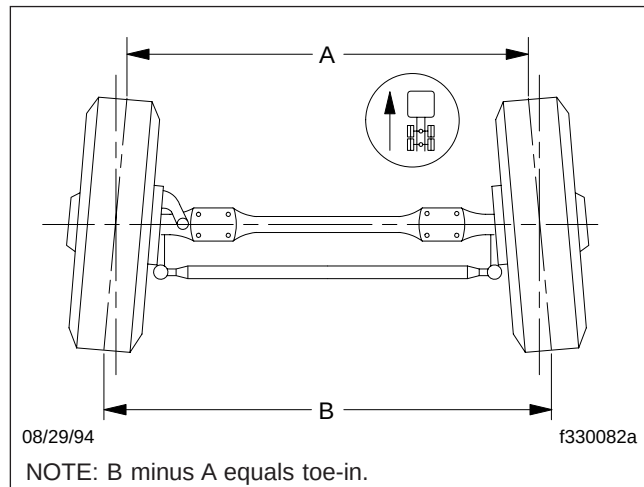

Fig. 3, Wheel Toe-In (overhead view)
6. Place a trammel bar at the rear of the front tires; locate the trammel pointers at spindle height, and adjust the pointers to line up with the scribe lines on the center ribs of the front tires. See Fig. 3. Lock in place. Check that the scale is set on zero.